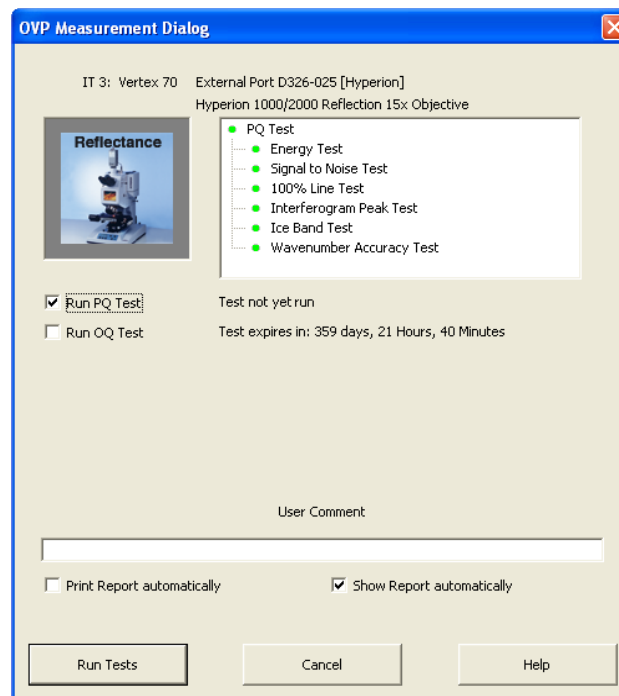

Figure 36: Starting the PQ Test
- As a result, the *OVP Measurement Dialog* opens. See figure 36.
Depending on your settings in the *OVP Measurement Dialog* window (figure 36), the test report is displayed and/or printed automatically immediately after the PQ test.
Depending on your settings in the *OVP Measurement Dialog* window (figure 36), the test report is displayed and/or printed automatically immediately after the OQ test is finished.